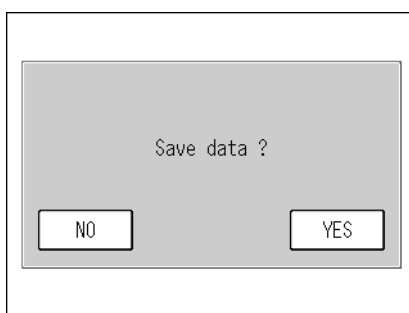

Fig. 93 Message confirming the saving of the data
- [SAVE]: Displays a message of saving data (Fig. 93 on page 73).